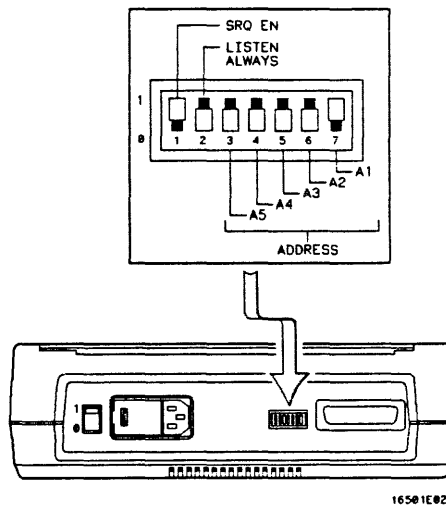

Figure 7-2. Configuration Switches for the HP ThinkJet Printer
2. Make sure the printer is in Listen Always (or Listen Only). For example, figure 7-2 shows the HP-IB configuration switches for an HP-IB ThinkJet printer. For the Listen Always mode, move the second switch from the left to the "1" position. Since the HP 16500A doesn't respond to SRQ EN (Service Request Enable), the position of the first switch doesn't matter.